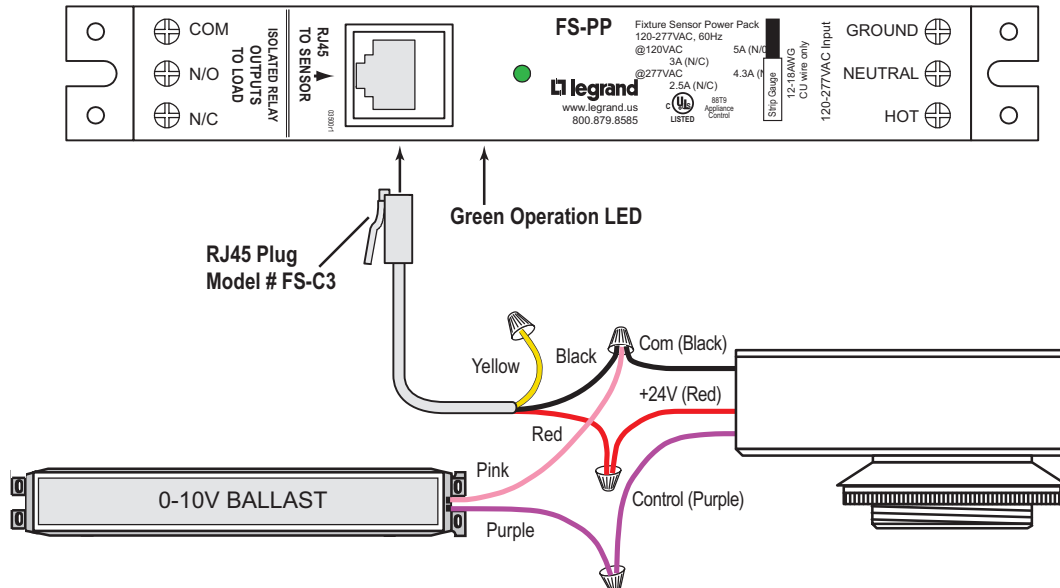

Fig 2: FS-305-D wiring
5. Connect control, load and supply wires as shown in Figure 2.